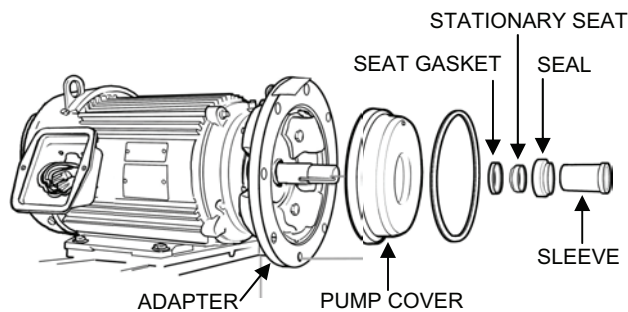

Figure 21. Seal Kit Component Removal.
5. If the seal kit (seal, stationary seat, seat gasket, and spring) and shaft sleeve need to be replaced, remove them as follows (see Figure 21):